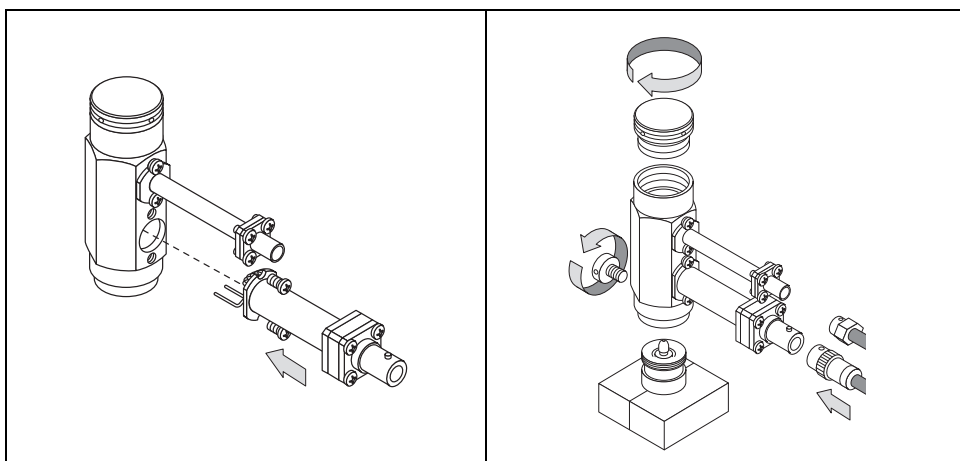

Figure 15-20. Replace the Ignition Assembly (2)
8. Make sure the connecting fork is placed downwards to achieve the correct contact with the jet. See Figure 15-20.
9. Place the detector cell on the detector base body and tighten the retaining screw. See Figure 15-20.
10. Reconnect the signal and ignition cables to the detector. See Figure 15-20
11. Reset the detector to the required operating conditions. See Figure 15-20.